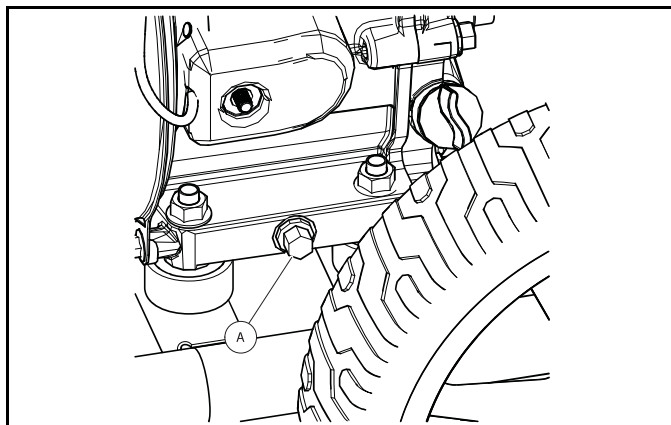

Figure 6-7. Oil Drain Plug
3. Clean area around oil drain plug (A) (Figure 6-7). The oil drain plug is located at base of engine, opposite carburetor.